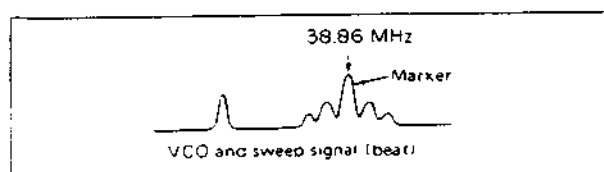

Fig. 2-5-11
- 3) Connect the oscilloscope to pin 17 of IC1 (VIDEO DET OUT) and adjust T3 to align the waveform with the frequency marker as shown in Fig. 2-5-11.